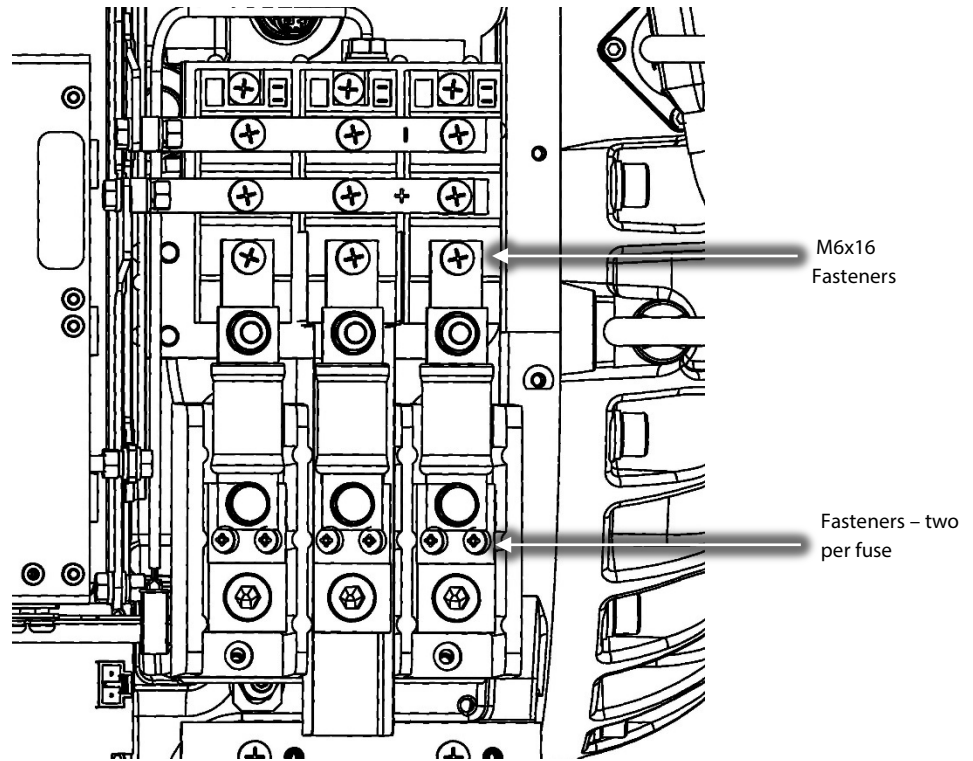
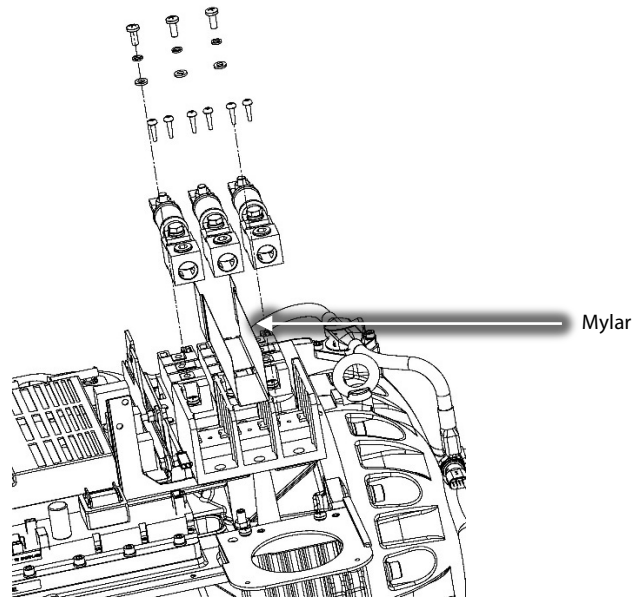

Figure 8 – Fuse Block Assemblies
Figure 9 – Mylar Removal
18. Remove the M6x16 fasteners that connect the Fast-Acting Fuses to the SCRs. Refer to Figure 8 (Fuse Block Assemblies).
20. Refer to Figure 8 (Fuse Block Assemblies) and Figure 9 (Mylar Removal).
21. Remove the insulating Mylar from the middle Terminal Block and set aside. Refer to Figure 9 (Mylar Removal).